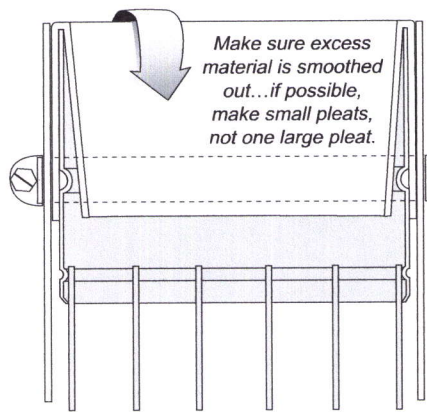

Figure 1
2. Fold the top of the bag inside the cage. The bag should extend down inside the roll band top to below the first groove (see figure 1). Smooth the folded fabric and distribute any excess fabric into several small pleats instead of one large one. Sleeve top bags are assembled the same way.